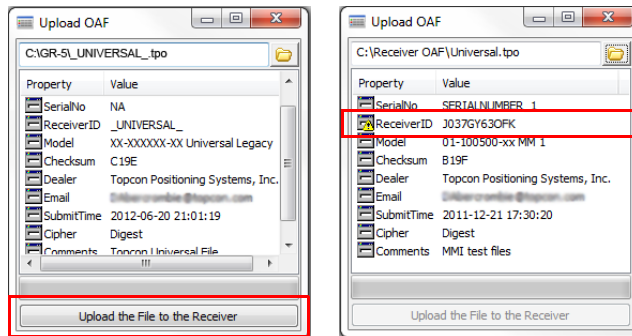

Figure 24: OAF Compatibility Check
- Press **Upload the File to the Receiver** (Figure 24) to start loading the file.